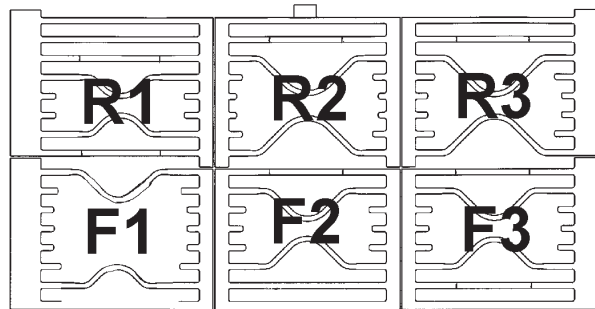

Fig. 8A
5. Fit the pan supports in the following order The pan supports are marked on the underside to correspond to the markings below. The pan supports must locate in the recesses in the hotplate casting. (See Fig. 8A & 8B)